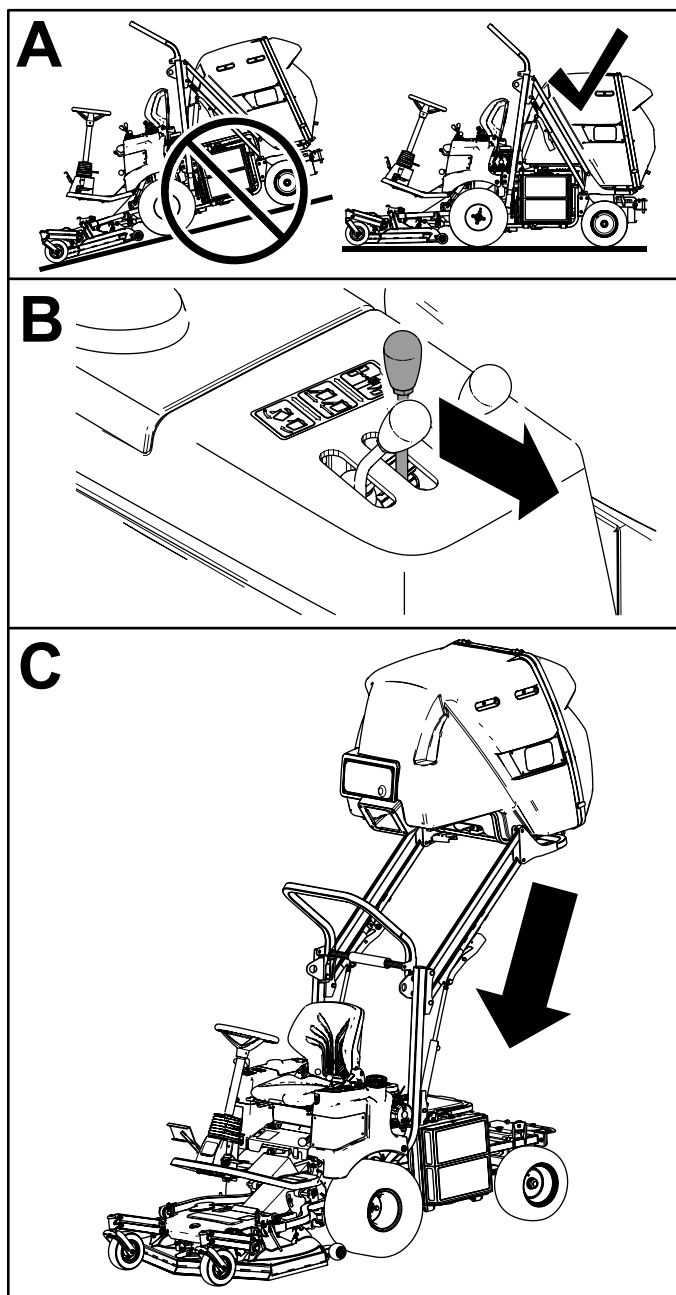

Figure 24
2. Move the hopper lift lever forward to lower the hopper (**Figure 24**).